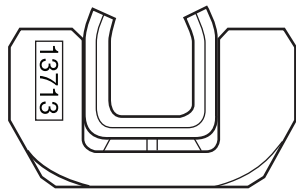

FIGURE 3
2. Select connector to be installed on wire(s). Insert connector into die nest (2) with connector rib in the die nest side wall grooves, and with the open end of the connector facing outward as shown in **Figure 3**.